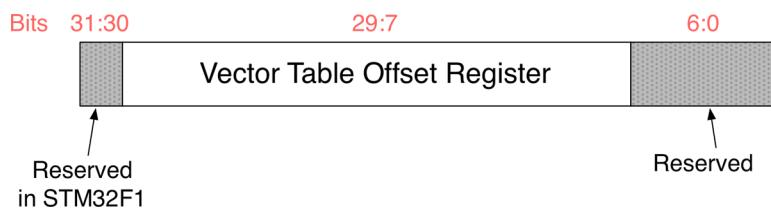

Figure 2: The structure of the VTOR register
- In STM32F1 MCUs, which are based on the Cortex-M3 r1p0 core revision, the bits [31:30] of the VTOR register are reserved (see Figure 2) and hence it is possible to relocate the *vector table* only in the code memory (`0x0000 0000`) and in SRAM (`0x2000 0000`).